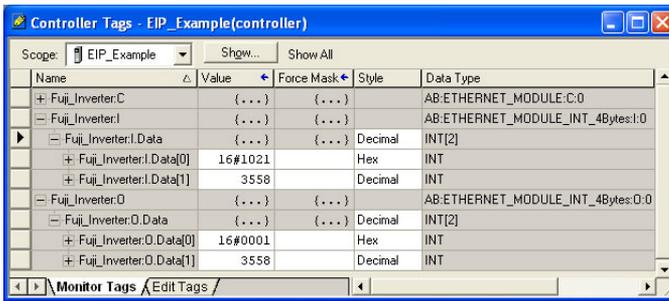

Figure 88: Controller Tags for I/O Access
- 8) By double-clicking “Controller Tags” in the project tree, it is possible to view the newly-added tags. Refer to Figure 88. The Fuji_Inverter:C configuration tag is unused, the Fuji_Inverter:I tag allows viewing of the input data, and the Fuji_Inverter:O tag allows modification of the output data. These tags will be synchronized with the inverter at whatever rate was established for the module's RPI.
We can directly interact with these tags in order to control and monitor the inverter. In Figure 88, for example, we can see that the first 16-bit word of output data (Fuji_Inverter.O.Data[0]) has been set to a hexadecimal value of 0x0001. Referring back to Figure 40, we can see that the first element of the consumed register configuration references register 1799, which is the inverter's operation command register. A value of 0x0001, therefore, means that the FWD (run forward) bit has been turned ON.